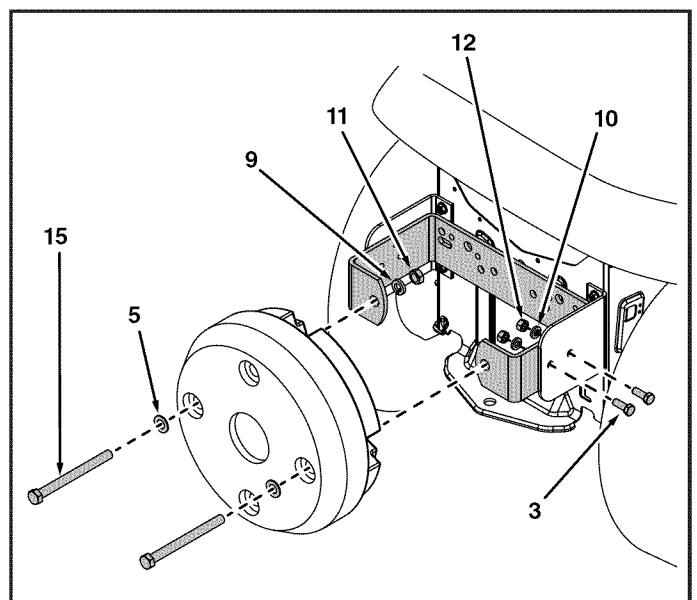

FIGURE 7
3. Assemble wheel weight to weight bracket (1) using two 1/2" x 5-1/2" hex bolts (15), 1" O.D. washers (5), 1/2" lock washers (9) and 1/2-13 hex nuts (11). Tighten securely. See figure 7.